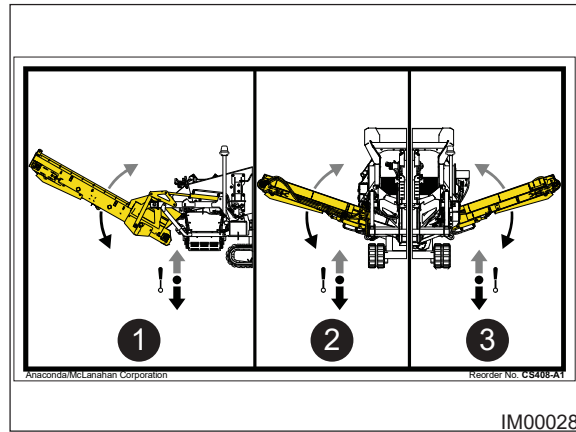

Fig: 7.9 - Control Levers
5. Slow and carefully push **DOWN** the Control Lever (Item 2, Fig: 7.9) to unfold the mid-size conveyor.